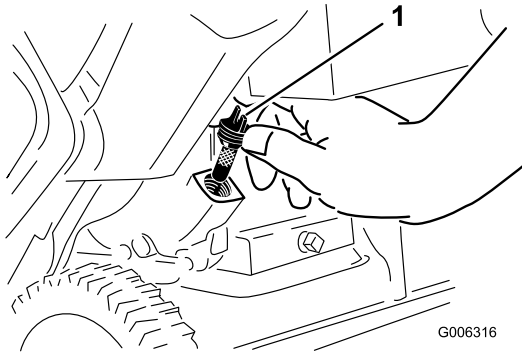

Figure 11
2. Clean around the oil fill cap (Figure 11).